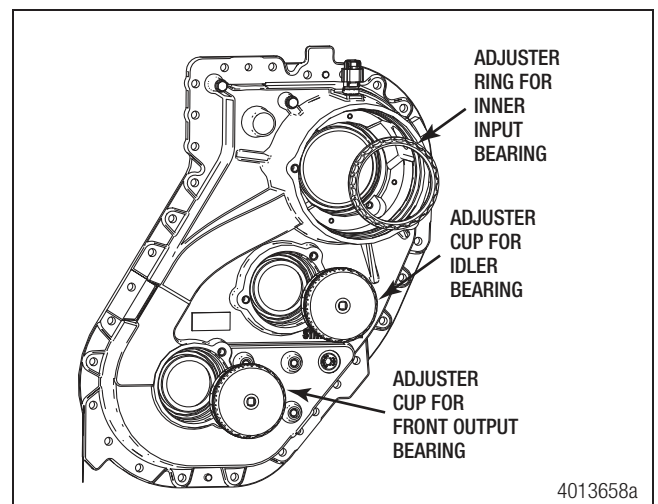

Figure 6.17
3. Remove the bearing adjuster ring and cups from the rear case half. Figure 6.17.